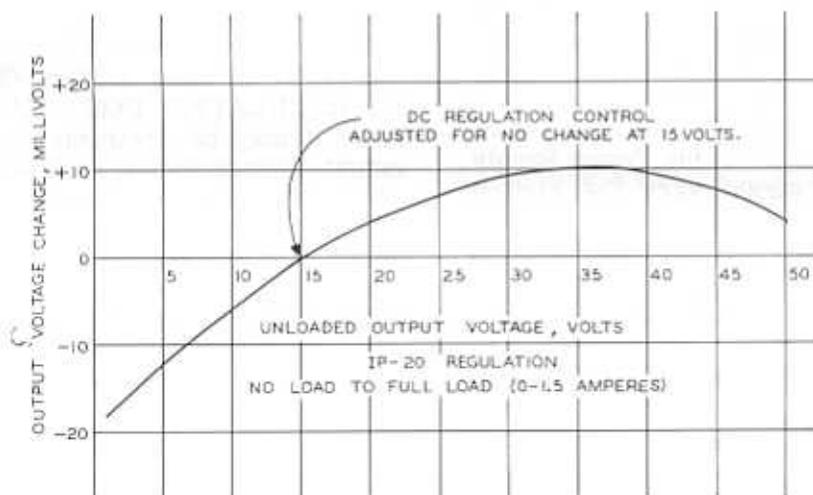

Figure 6
- ( ) Observe the meter and alternately touch the load across the + and - binding posts and adjust the DC REGULATION control until there is no change in the meter reading as the load is connected and disconnected from the binding posts. This setting will give the regulation characteristic shown in Figure 6.